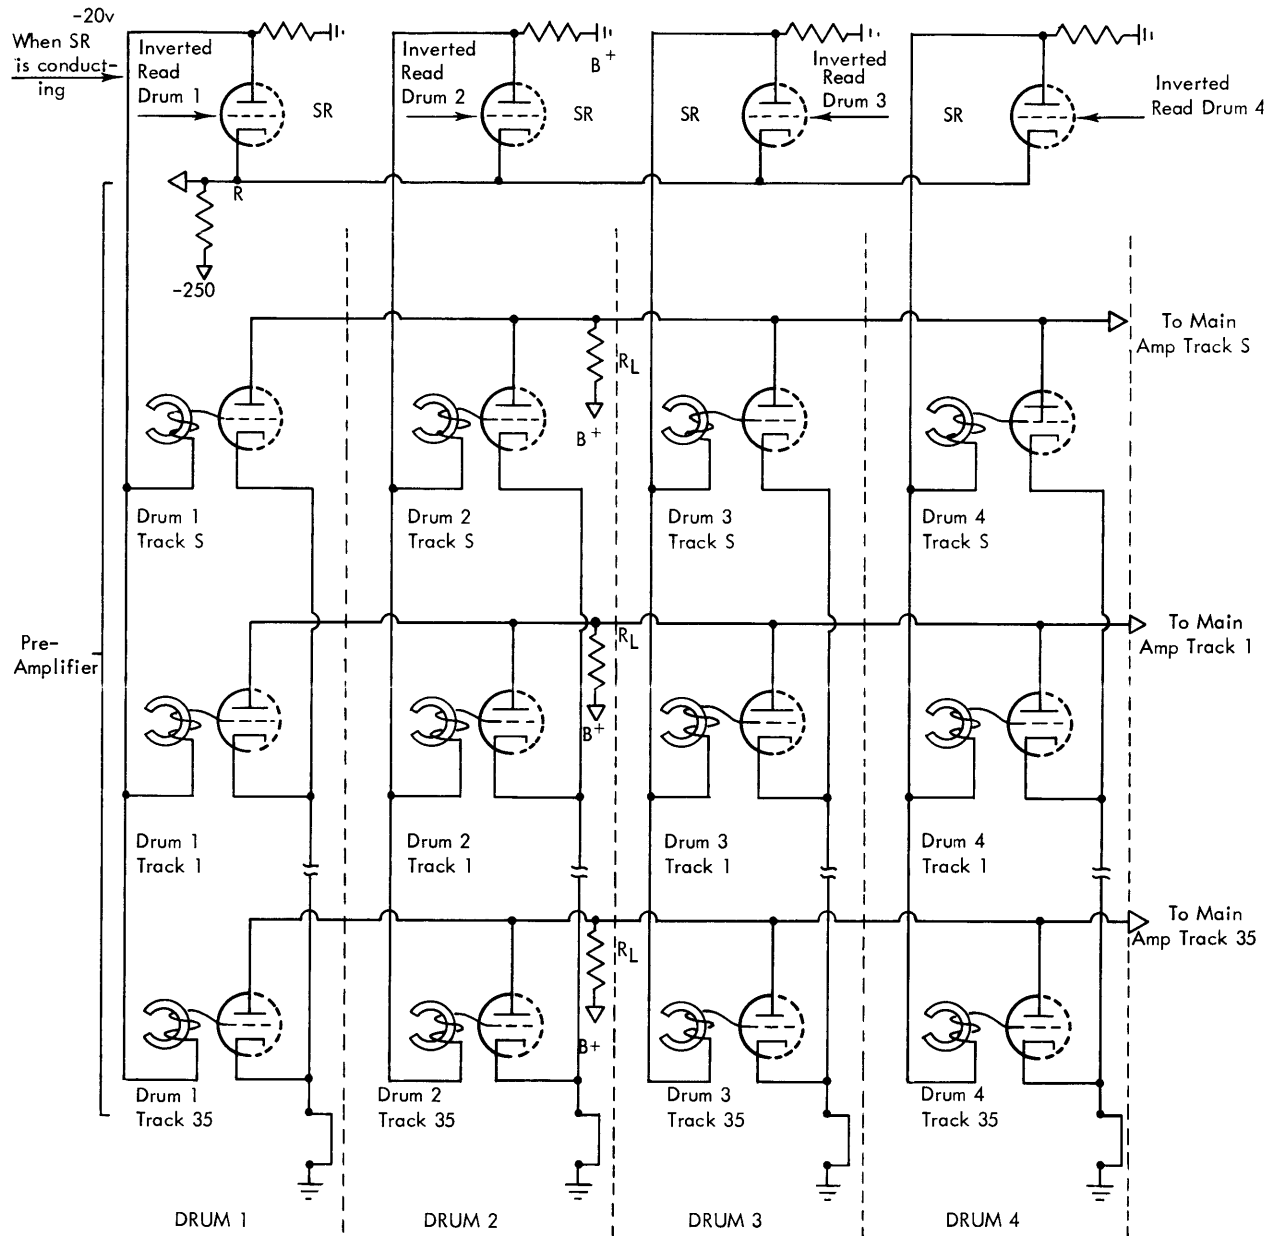

Figure 31-3. Basic Read Circuit Switching
Read coils are not switched by relays as are write coils, but are connected to the grids of tubes. Figure 31-3 shows the circuits used for switching three representative tracks (S, 1, and 35) of the four logical drums. These triodes and associated components are called pre-amplifiers (PA). Four PA's, representing the same track on each of the four logical drums, share a common plate load resistor ( $R_L$ ) and are connected to one main amplifier. Switching between logical drums is accomplished by selecting which of the four PA's is to feed a signal into the corresponding main amplifier.
Normally the SR circuit (shown at the top of Figure 31-3) conducts, placing -20 volts on the grids of the PA's. This insures that the PA's will not conduct.